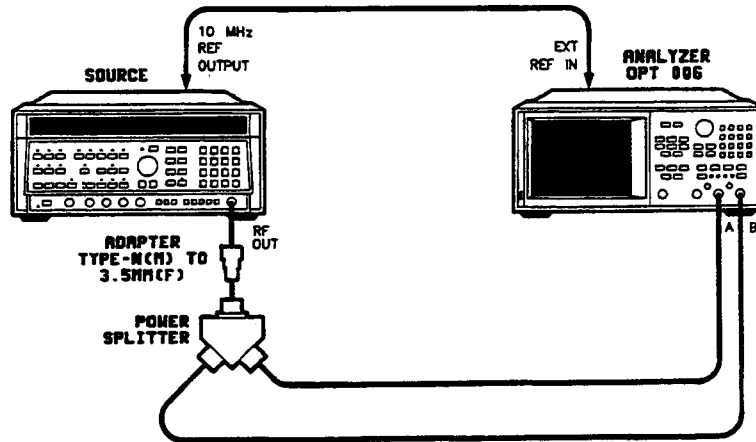

Figure 35. HP 8753B/C, HP 8702B Option 006 Frequency Response Test Setup
5. Move the RF cable from input R to input A of the analyzer (see Figure 35). Press **[MEAS] [A/B] ([MEAS] [INPUT PORTS] [A/B] for 8702)**. Set both instruments to 3 GHz and press **[MKR] [MKR ZERO DREF = D]** to reset the standard.
10. Move the RF cable from input R to input A (see Figure 35). Repeat steps 6 and 7, but now press **[MEAS] [A/B] ([MEAS] [INPUT PORTS] [A/B] for 8702)** .